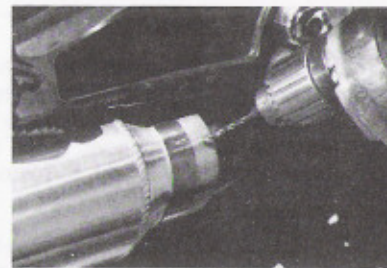

Figure 1
2. Mark hole placement with center punch and drill 1/8" hole. (Figure 1) Note: Before drilling, make sure you drill through perforated steel core and not the slotted portion.